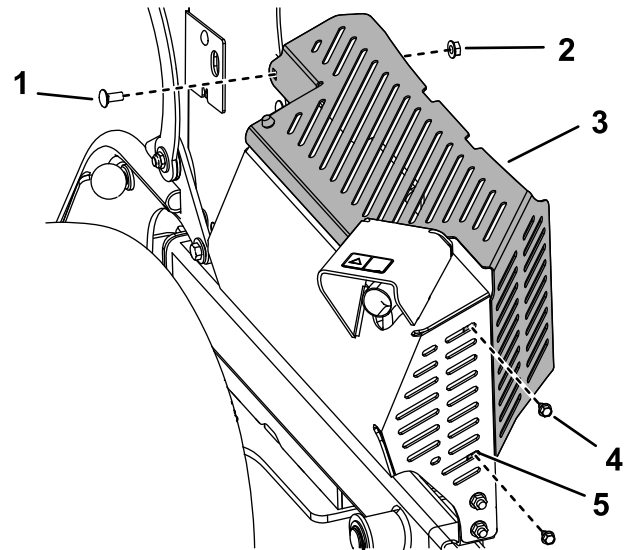

Figure 7
3. Install the heat shield over the muffler guard, with the tabs inside the muffler guard, and secure it with 2 thread-forming bolts and the carriage bolt and nut you removed previously (Figure 7).